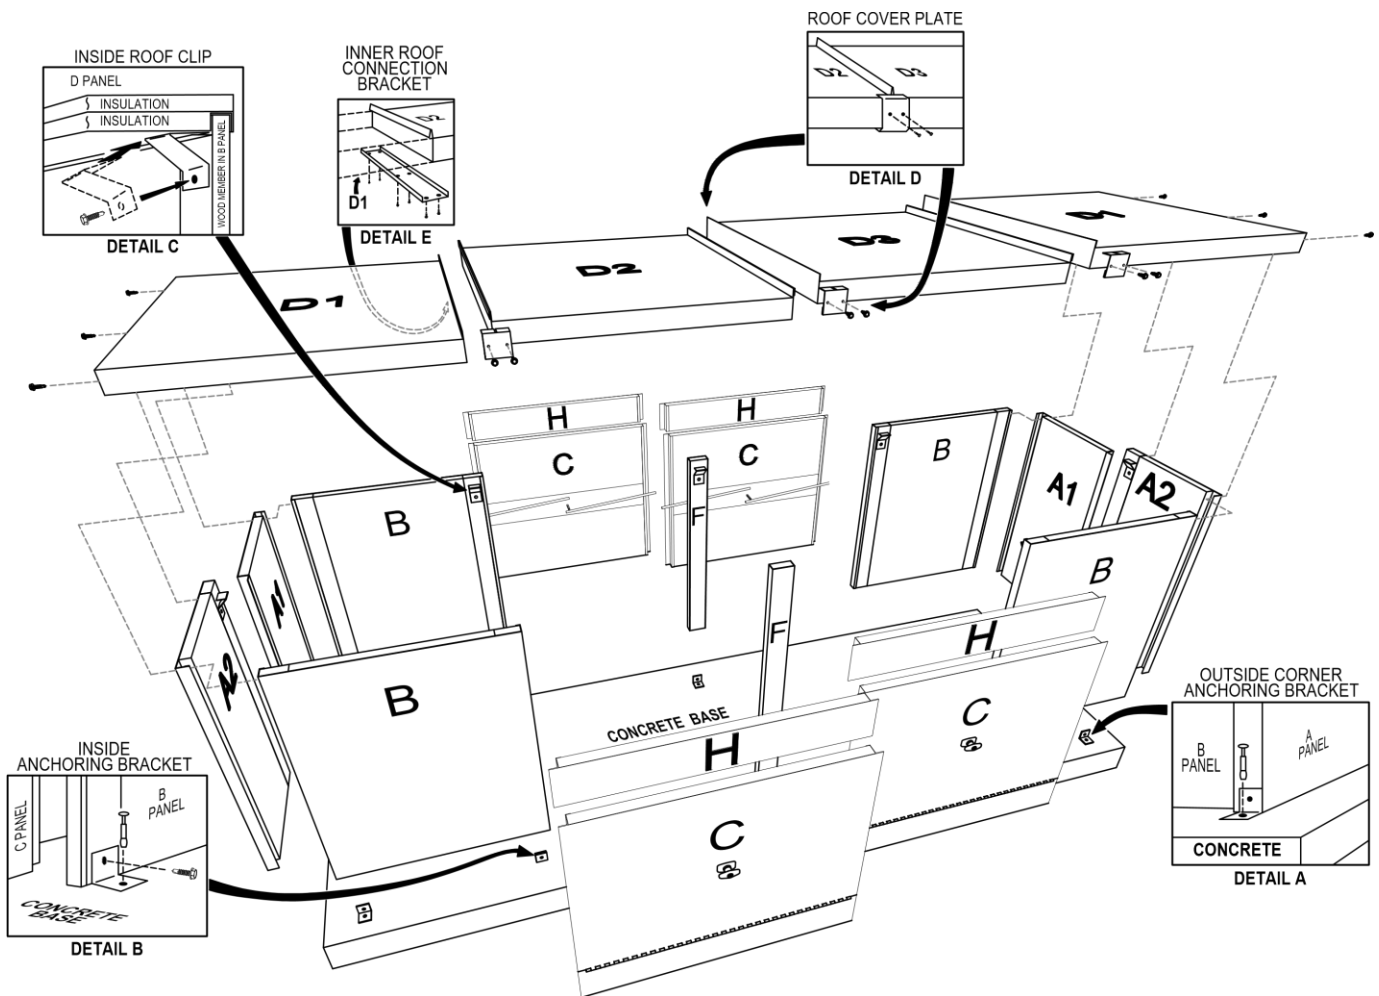

FIG. 2
8. With one of the “D1” (roof) panels in place on a “B-A-B” (corner-end-corner) assembly, fasten them together at the marked locations (Fig. 2) using nine (9) Hex Head Screws. Screws should fasten to the wooden studs to resist strong winds.